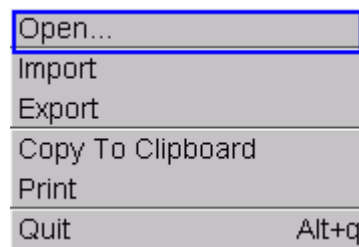

Figure 4.41: Open file menu
2. Select menu **File**→**Open** as shown figure 4.41 or click the OPEN icon